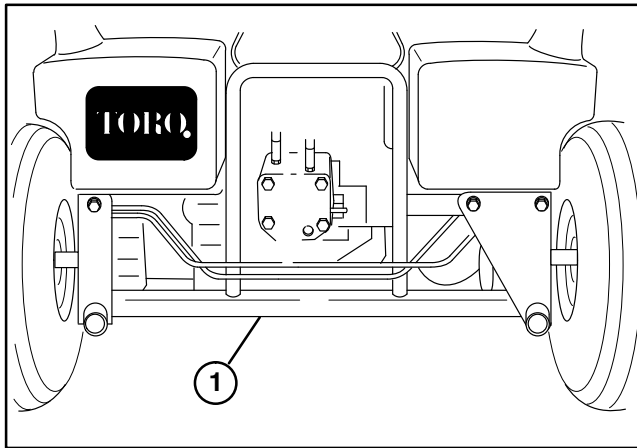

Figure 1
INSTALL WHEELS (Fig. 1)
3. Place a jack under square tube of frame (Fig. 1).